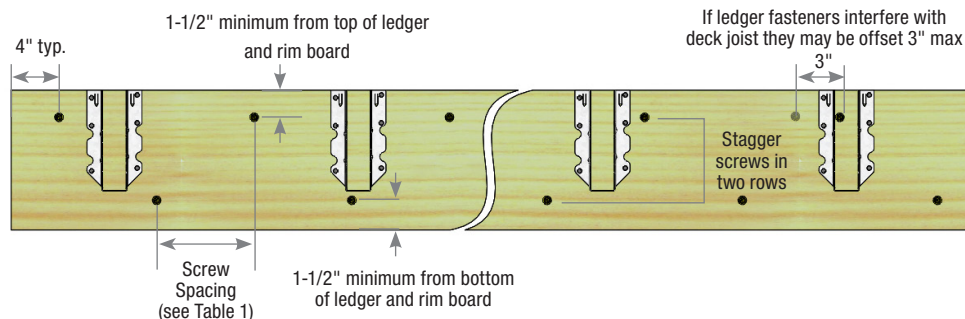

Figure 1
- Repeat these steps and install the appropriate number of screws at the prescribed edge, end distances, and spacing as called out in Table 1 and Figure 1.